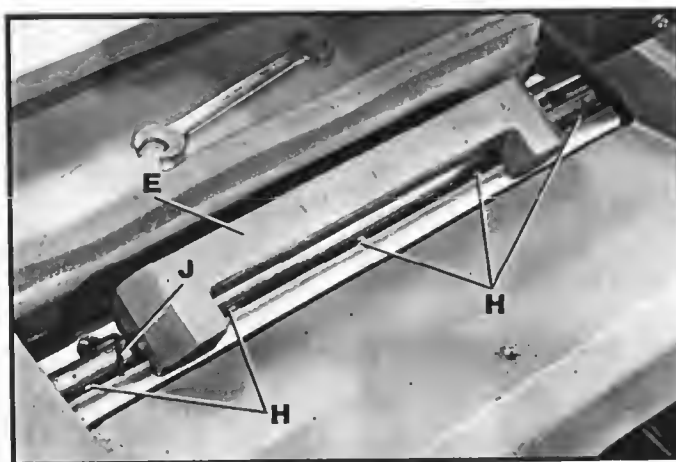

Fig. 29
B. When the gage (E) Fig. 29, is placed on the cutterhead, as shown, the knife should just contact the bottom of the gage at each end of the gage.
C. If any of the knives require an adjustment, slightly loosen the knife locking bar in each of the three knives by turning the locking screws (H) Fig. 29, into the locking bar just enough to relieve stress in the cutterhead.
D. To adjust the knife that must be reset, loosen all five locking screws (H) Fig. 29, by turning them into the locking bar. Then using wrench (J) turn allen screw to raise or lower the knife on each end of the cutterhead until the cutting edge of the knife just touches the gage. Then snug up the knife locking bar by lightly backing out the five locking screws (H) against the knife slot. **IMPORTANT: AT THIS TIME, ONLY TIGHTEN THE KNIFE INTO THE SLOT ENOUGH TO HOLD IT IN POSITION.**
F. After all three knives are set, back out and tighten the five locking screws (H) Fig. 29, against the slot, starting with the end screws first, then the center screws until the knife is securely held in the cutterhead. Tighten the remaining two knives in the same manner.
C. Insert knives, knife locking bars and screws into all three slots in the cutterhead. Back out the locking screws (H) Fig. 29, just enough to hold all three knives in the cutterhead.